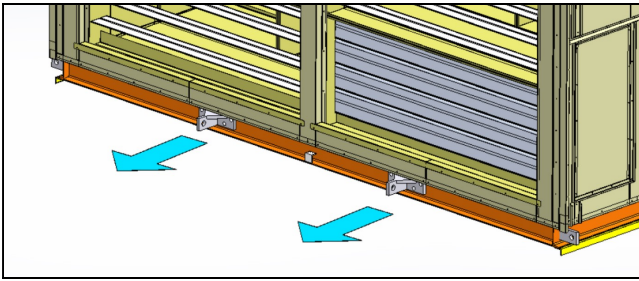
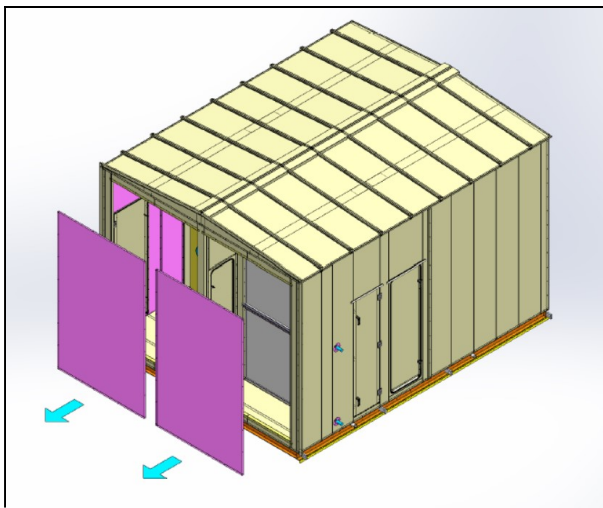

Figure 2: Removable Lifting Lugs: mostly installed between sections when unit is very large
Figure 11: Removal of the cover panels for transport
- Some unit design will require removable lifting lugs (**Figure 2**) which will need to be taken out before joining two sections together. In addition, the shape and the weight can influence the necessity of using removable lifting lugs.
- Followed by the lifting procedure for 1 section, apply the sealing gasket provided with the unit **BEFORE** bringing the next module closer. If removable lifting lugs are in conflicts, please remove them (**Figure 2**). In some cases, reinforcing panels (**Figure 11**) are installed in between section for transport, and these will need to be removed.
- When installation is completed, it is important to remove the cover panels or reinforcing panels for shipping before installing the ducts and/or operating the air handling unit. (Figure 11) Also, as mentioned before, cover/reinforcing panels must be removed when joining 2 sections together. In some cases, some panels cannot be removed once the sections are joint together.